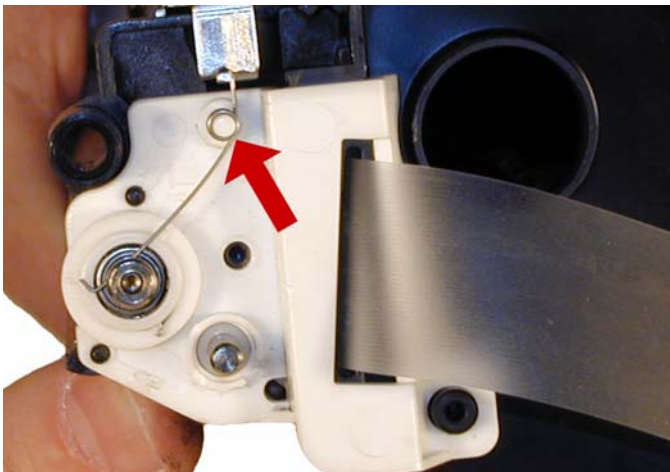

Figure 52
46) Install the small spring as shown onto the developer roller shaft. See **Figure 52**